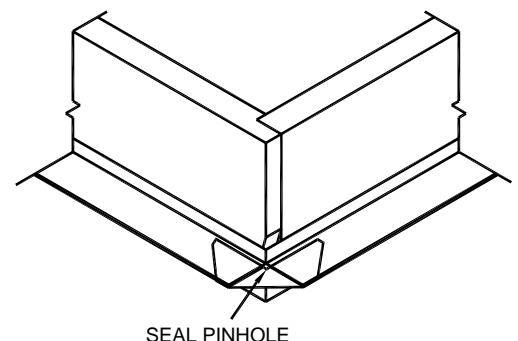

Fig 6
Step 5. Seal Gasket Corners (Fig 6)